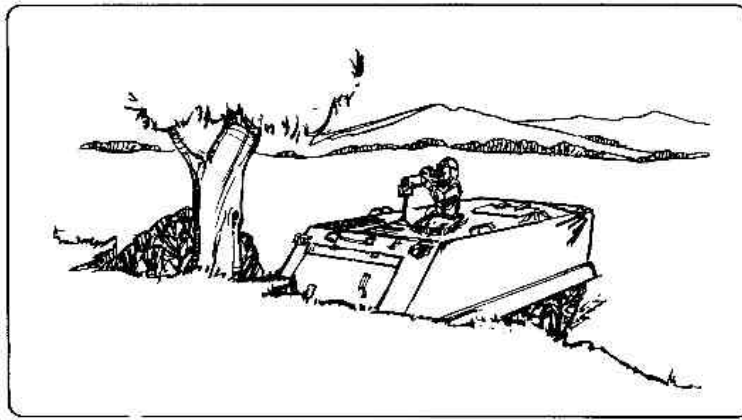
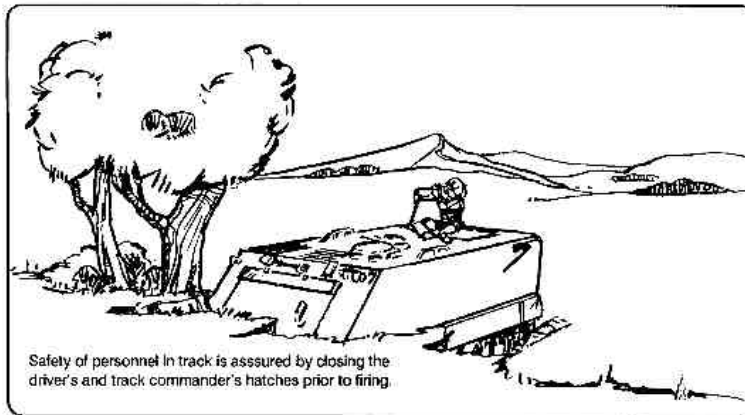

Figure 3-13. Firing the Dragon from commander's hatch.
Figure 3-14. Gunner sitting on closed hatch.
- a. Without using the M175 mount, the gunner stands in the track commander's hatch and places the bipod legs in the grill to fire the weapon. (See Figure 3-13.) The gunner can also sit on the closed cargo hatch and fire the Dragon as if on the ground. (See Figure 3-14.)